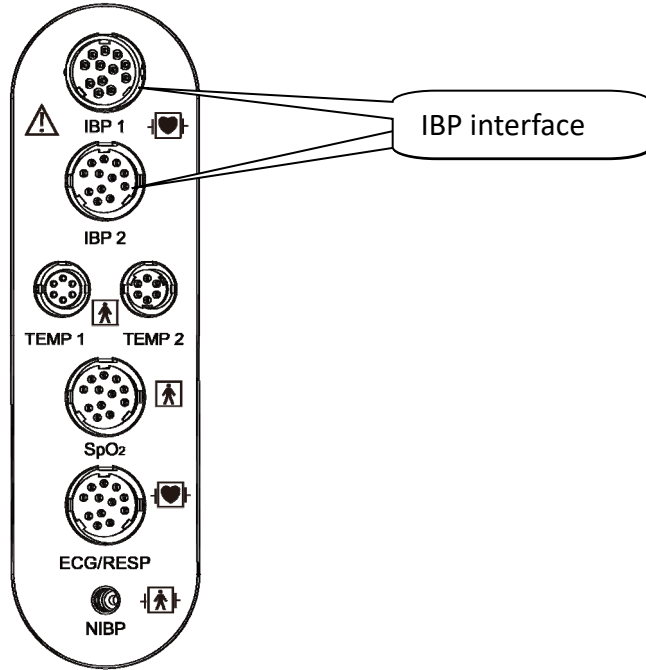

Fig. 10 - 1 IBP Interface
**IBP settings interface:****Fig. 10 - 3 IBP Settings Interface****Related parameters:**